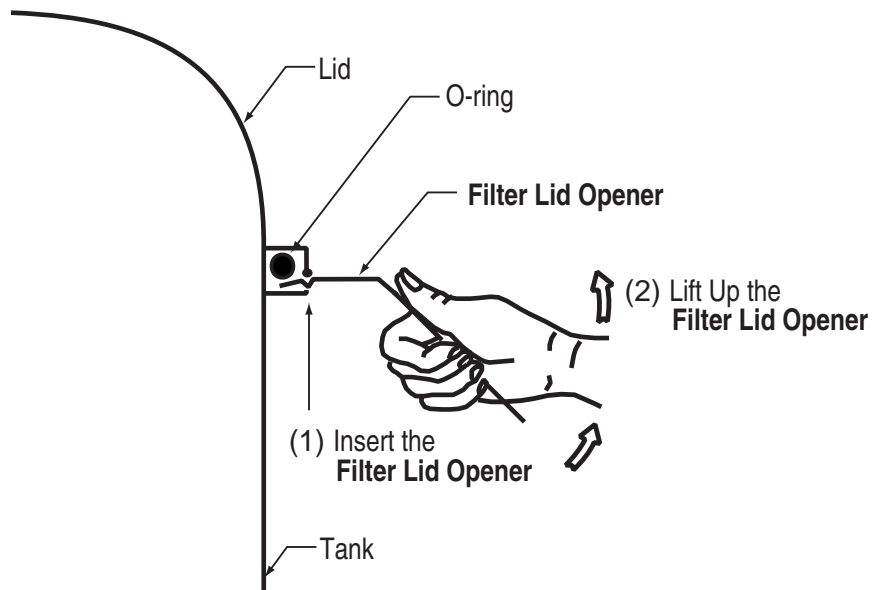

Figure 5.
3. Remove tank lid with screwdriver or with a tool available from the manufacturer, see page 9, Figure 5. Avoid cutting rubber O-ring.
6. Remove tank lid with screwdriver or with a tool available from the manufacturer, see page 9, Figure 5. Avoid cutting rubber O-ring or bending of lid or tank O-ring channel.
4. Insert the filter lid opener as shown in Figure 5.